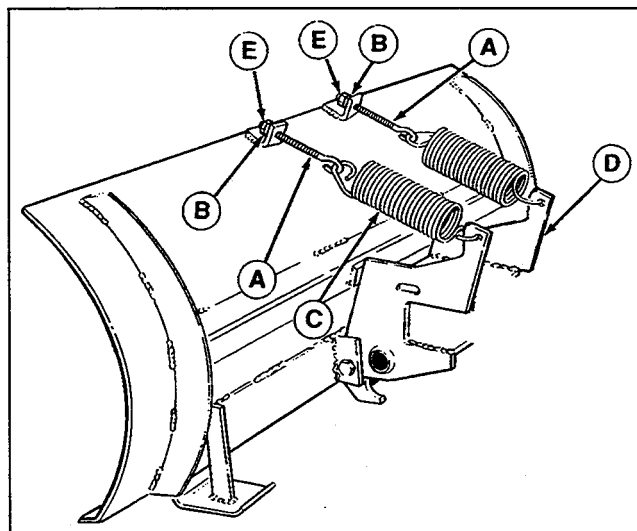

Figure 5. Tension Springs
3. See Figure 5. Insert threaded end of eyebolt (A) thru lug on blade, and screw on 5/16 nut (B) just far enough so that it is flush with the end of the eyebolt.
4. See Figure 5. Hook the springs (C) into the pivot frame (D). Using a pliers, stretch the springs to hook the opposite ends to the eyebolts (A).
5. See Figure 5. Tighten the nut (B) on each eyebolt enough to expose about 3/4" (19 mm) of thread.
6. See Figure 5. Holding the first nut (B) with a wrench, add a second nut (E) to each eyebolt, and tighten securely against the first nut to act as a jam nut.